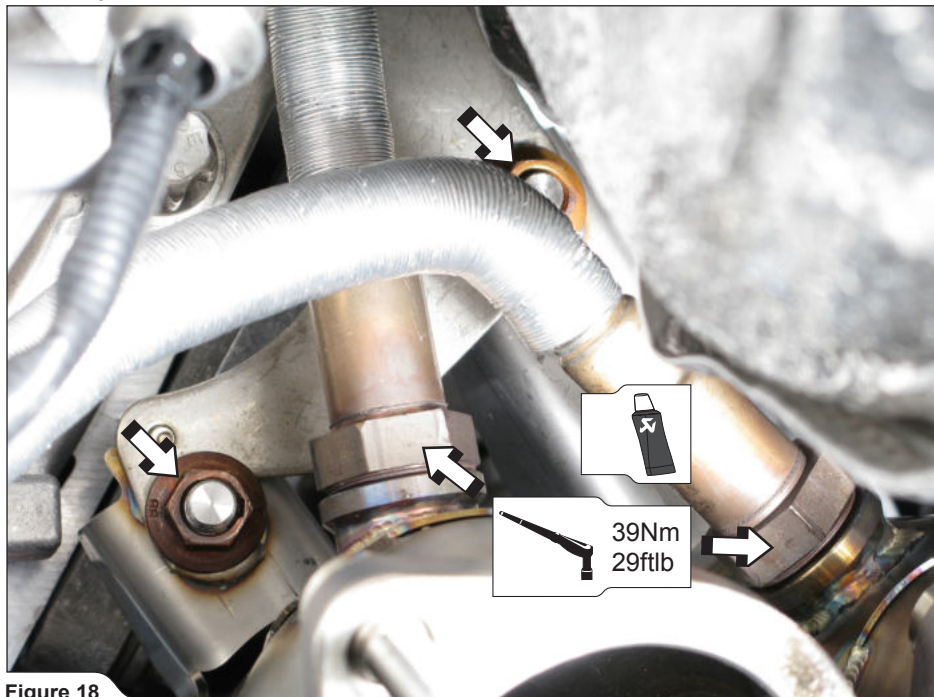

Figure 18
2. **For Optional Down Pipes:** align the Down Pipes and hand tighten the bracket using original nuts; install the rear lambda sensors (**Figure 18**).